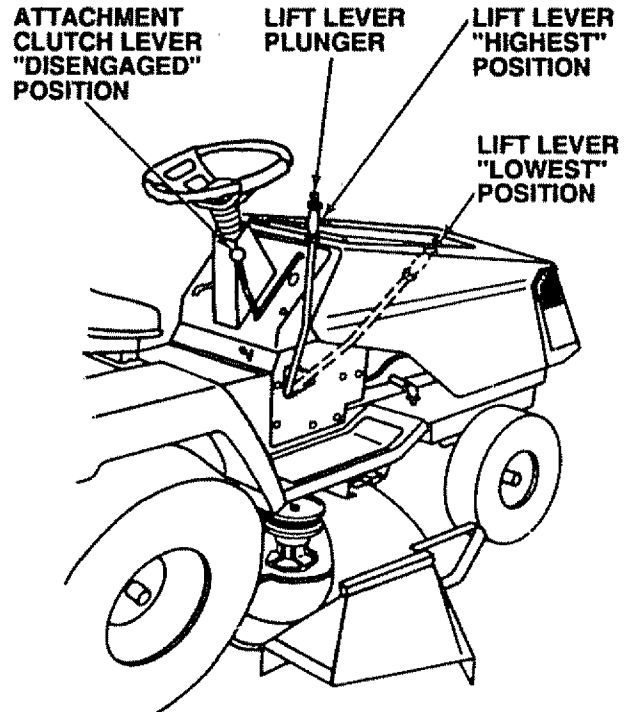
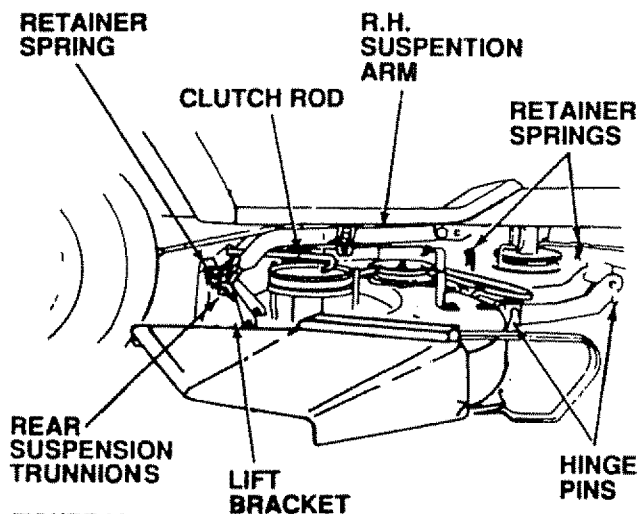

FIGURE 30
FIGURE 29
- Remove retainer spring from clutch rod; pull clutch rod out of clutch bracket. (Fig. 29)
- Pull retainer springs out of rear suspension trunnions. Remove rear suspension trunnions from lift brackets (Fig. 29).
- Pull retainer spring out of rear hinge pin. Remove rear hinge pin. (Fig. 29).
- Pull retainer spring out of front hinge pin. Remove front hinge pin (Fig. 29).
NOTE: IF AN ATTACHMENT OTHER THAN THE MOWER DECK IS TO BE MOUNTED ON THE TRACTOR, THE L.H. AND R.H. SUSPENSION ARMS (FIG. 29) SHOULD BE REMOVED FROM TRACTOR.
Your Mower installs without the use of tools. Raise attachment lift lever (Fig. 30) to its highest position.
- Move attachment lift lever (Fig. 30) forward to lower suspension arms. Slide trunnions through lift bracket holes and secure with retainer springs (Fig. 29).
- Use attachment lift lever (Fig. 30) to raise mower.
- Place attachment clutch lever in "Disengaged" position (Fig. 30).
- Move Attachment lift lever (Fig. 30) forward to lower mower to its lowest position.